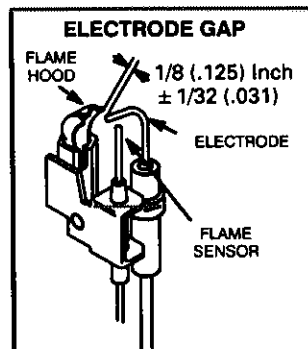

FIGURE 29
- 1- *Pilot Flame* — Pilot flame must surround the end of flame sensor for proper operation of pilot safety circuit. See figure 29.